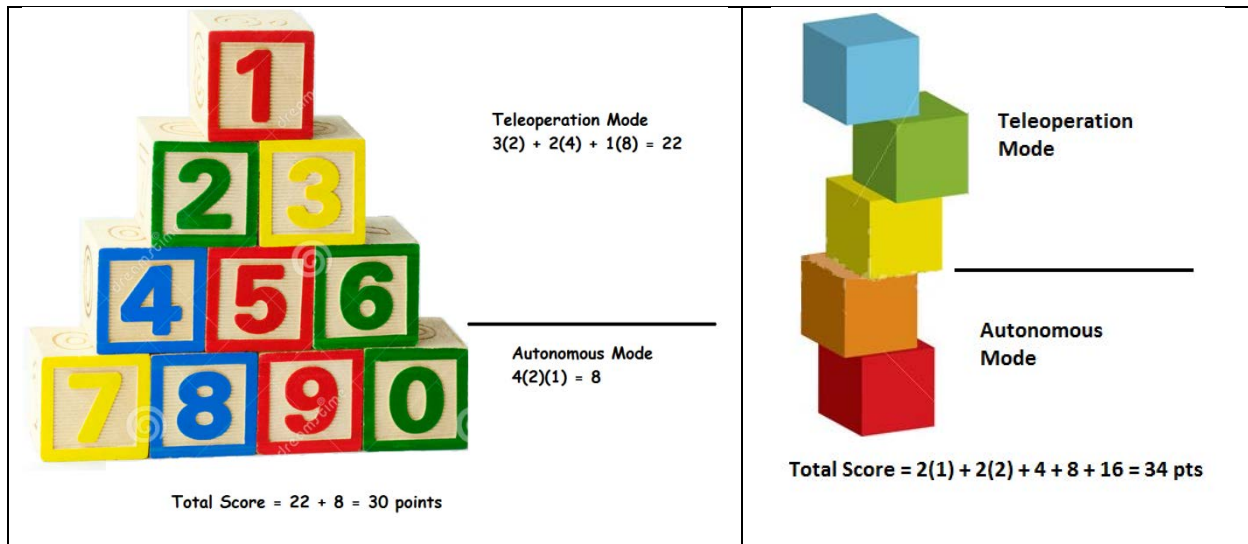

Figure 2: Sample Tower Scores
1. A block on the bottom level of a tower will earn 2^0 points per block, a block on the 2nd level will earn 2^1 points per block and the n th level would be $2^{(n-1)}$ points per block. A tower must contain at least 2 blocks in order to earn a score. Figure 2 shows sample tower scores.
2. All block scores will double during the autonomous period. For example a block on level 0 would be $2(2^0)$ per block and a block on the n th level would be $2(2^{(n-1)}) = 2^n$ points per block. A tower must contain at least 2 blocks in order to earn a score. Figure 2 shows sample tower scores.